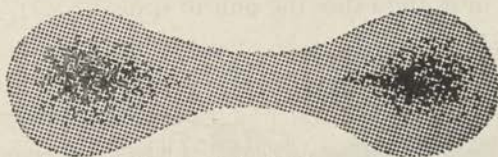

FIGURE 126.—Split spray.
(2) A split spray (fig. 126), or one that is heavy on each end of a fan pattern and weak in the middle, is usually caused by too high an atomizing air pressure. Reducing that pressure will usually overcome